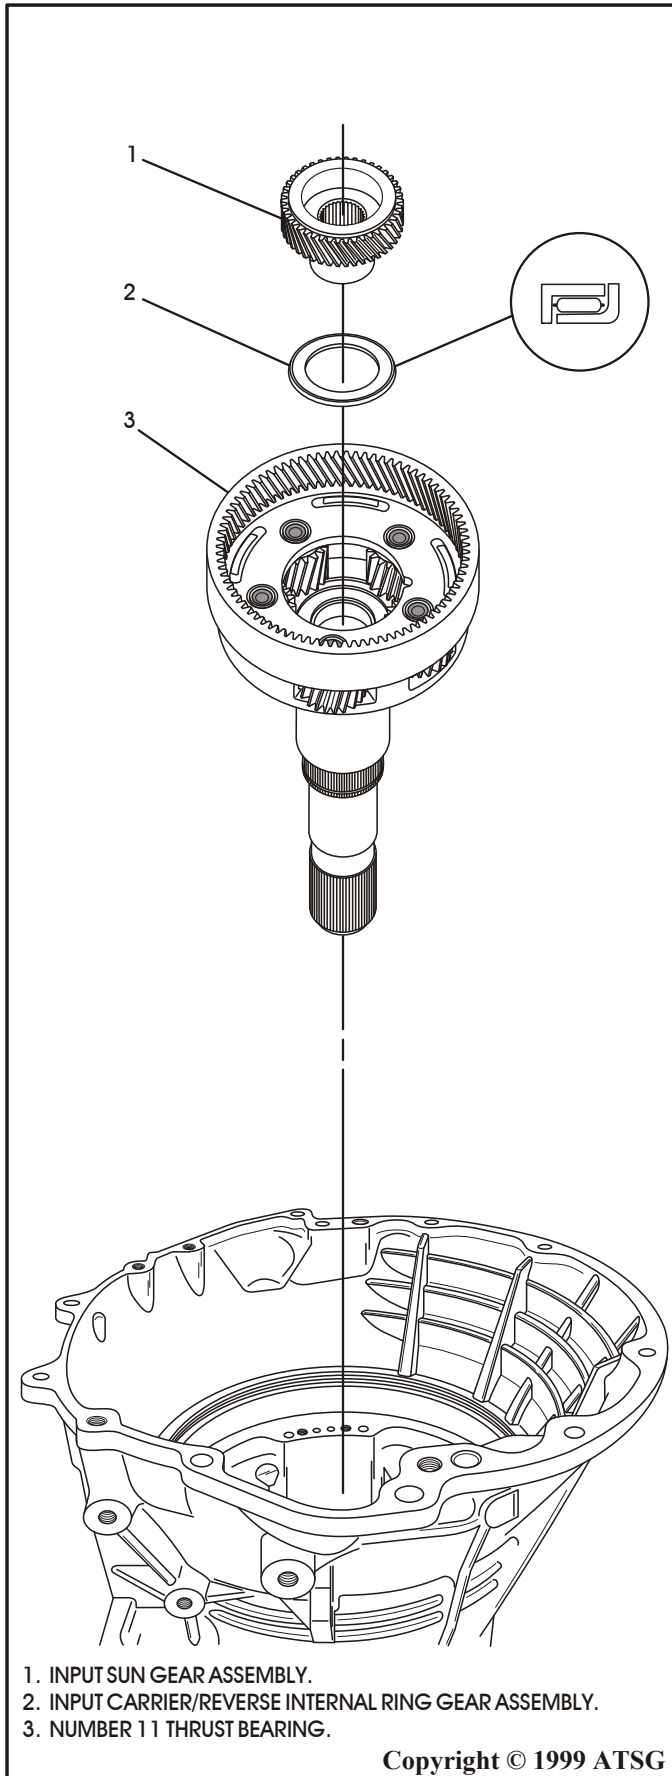

Figure 113
17. Install input carrier/reverse internal ring gear as shown in Figure 113, by rotating into position, to engage the teeth on input internal ring gear.
18. Install the number 11 thrust bearing assembly into the input carrier in the direction shown in Figure 113.
19. Install the input sun gear assembly, as shown in Figure 113, by rotating into position.